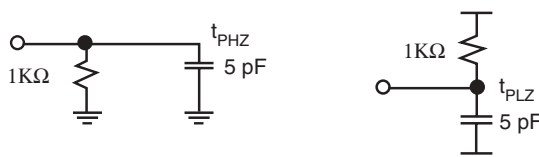

Figure 4: Loads used for t_{PXZ}
a. The following loads presented in Figure 4 are used for t_{PXZ} :